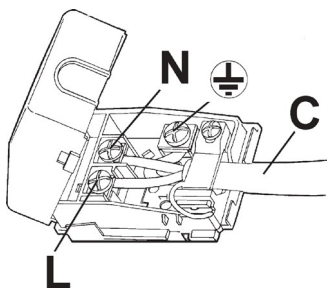

Fig. 15
- Connect the cables (Fig. 15) according to the following relationships: